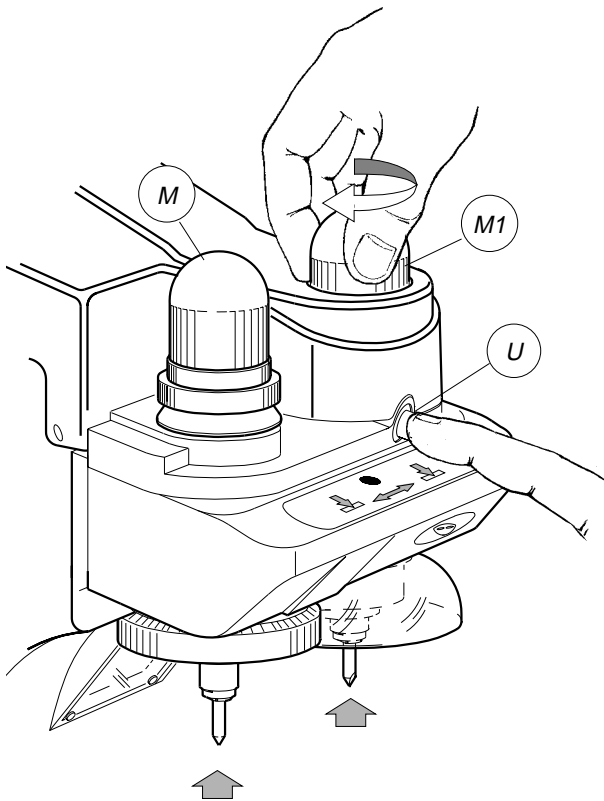

Fig. 15
1. place the tracer point all the way into the left-hand collet and secure with knob (M).
- push button (U) and turn knob (M1) (Fig.15) slowly until the spindle clicks into place, then lock the cutting tool by turning knob (M1).